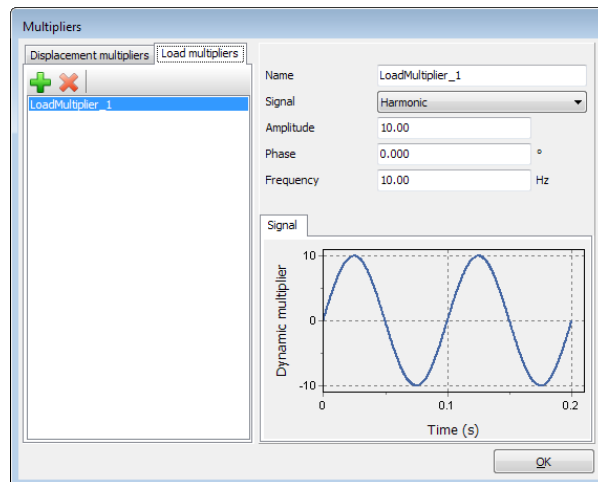

Figure 12.5 Definition of a *Harmonic* multiplier
- Define a *Harmonic* signal with an *Amplitude* of 10, a *Phase* of 0° and a *Frequency* of 10 Hz and as shown in Figure 12.5.